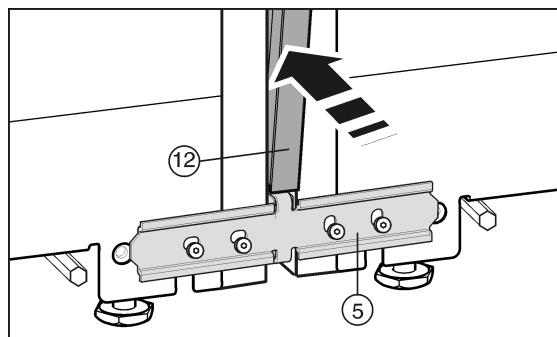

Fig. 27
Before inserting the trim Fig. 27 (12) squeeze the two fillets together along the entire length. The trim can now be inserted more easily into the gap. When pressing in the trim, use a soft cloth to prevent dents on the surface of the trim. Press the trim carefully and evenly into the gap to achieve the best possible fit.
- ▶ On the front press the long trim Fig. 27 (12) into the vertical gap. Ensure that the trim rests on the connecting panel Fig. 27 (5).